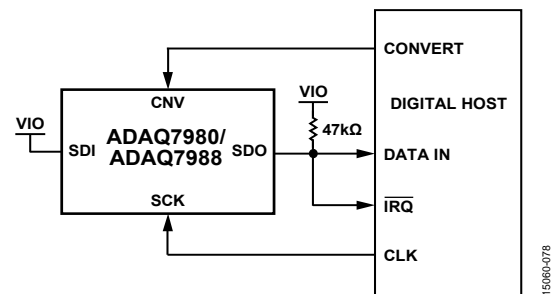
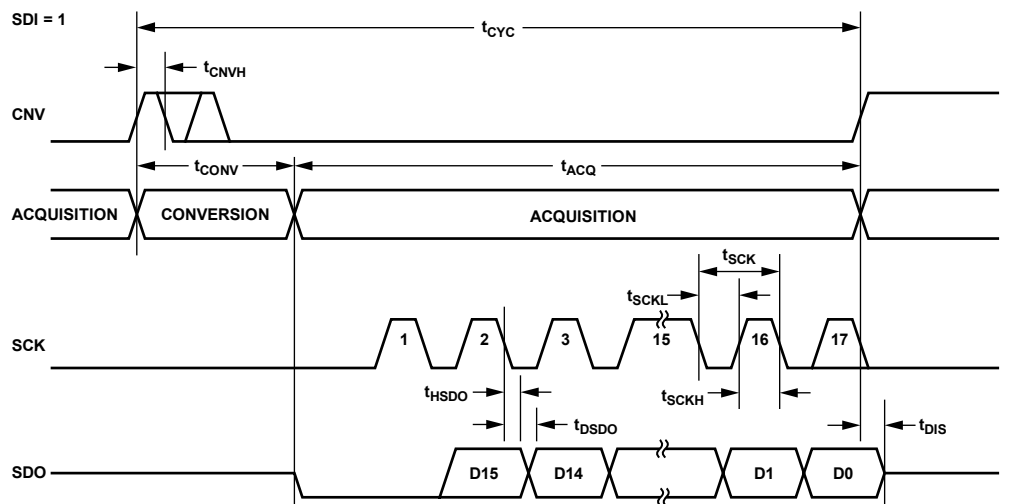
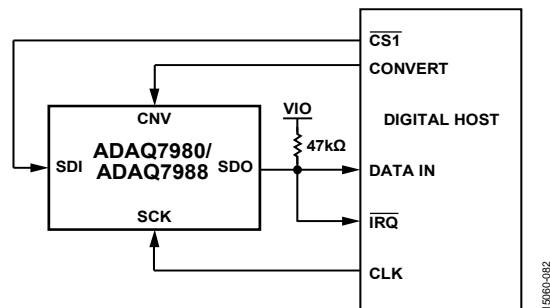
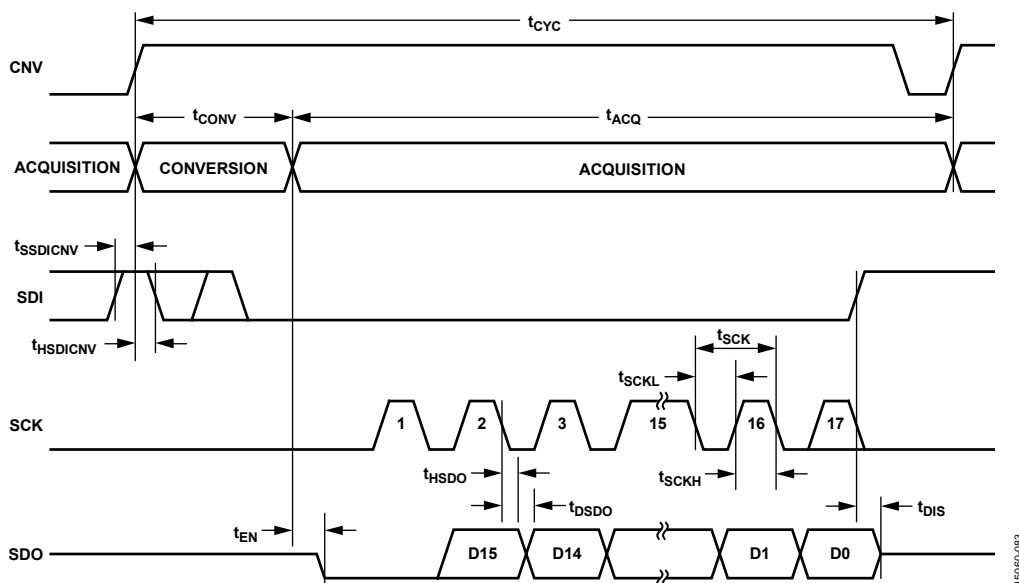

Figure 73. 3-Wire $\overline{\text{CS}}$ Mode with the Busy Indicator Connection Diagram (SDI = 1, High)
Figure 74. 3-Wire $\overline{\text{CS}}$ Mode with the Busy Indicator Serial Interface Timing (SDI = 1, High)
Figure 77. 4-Wire $\overline{\text{CS}}$ Mode with the Busy Indicator Connection Diagram
Figure 78. 4-Wire $\overline{\text{CS}}$ Mode with the Busy Indicator Serial Interface Timing
- In $\overline{\text{CS}}$ mode if CNV or SDI is low when the ADC conversion ends (see Figure 74 and Figure 78).
Figure 73 shows the connection diagram, and Figure 74 shows the corresponding timing.
Figure 77 shows the connection diagram, and Figure 78 shows the corresponding timing.